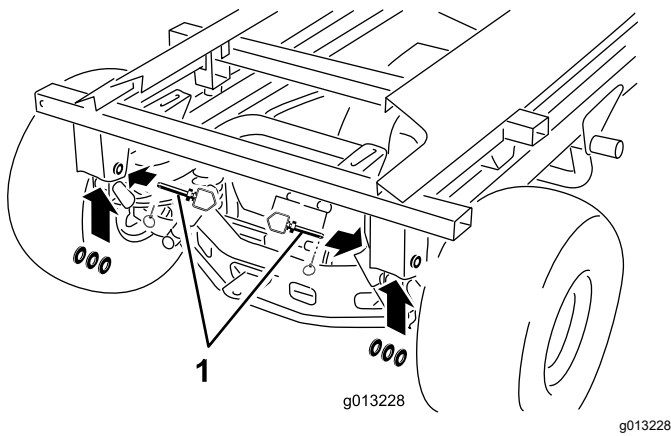

Figure 53
10. Remove the rear lynch pins, hitch pins, and washers (Figure 53).